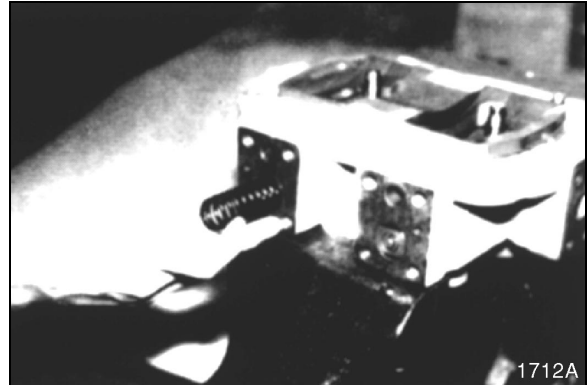

Figure 118
14. Install large spring. See Figure 118.